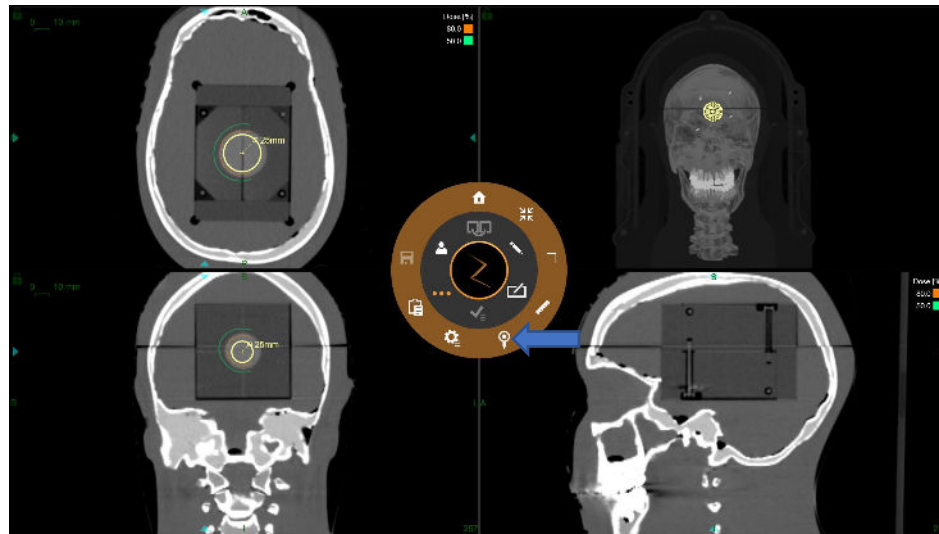

Figure 7-3 Ball-cube step.
3. Click **Auto ball center detection** to place the isocenter to the ball center (see Figure 7-3).